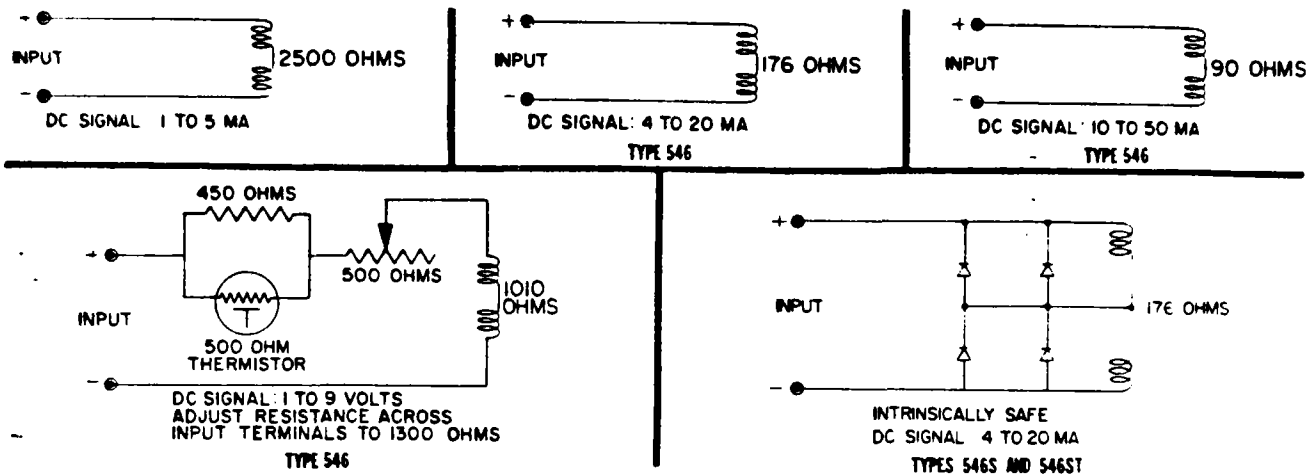

Figure 3. Typical Circuit Drawings
The electrical connections are made in the transducer case. A 1/2-inch NPT conduit connection is provided in the bottom of the case. Use a suitable conduit seal for hazardous locations. The wires that carry the milliampere signal from the controller are connected to the terminal strip (key 53, figure 6). The terminal strip is marked "+" and "-" to indicate the positive and negative terminals. For a direct acting unit (i.e., increasing current produces an increasing output pressure), connect the positive wire from the controller to the positive terminal of the transducer and the negative wire to the negative terminal. For a reverse acting unit (i.e., increasing current produces a decreasing output pressure), connect the positive wire from the controller to the negative terminal and the negative wire to the positive terminal. Typical circuit drawings are shown in figure 3.